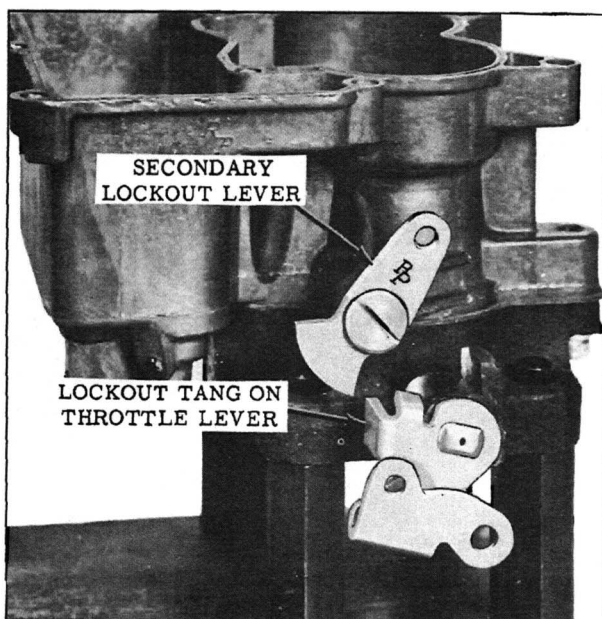

Fig. 24 Secondary Lockout Lever (Front Carburetor)
6. (Front Carburetor Only). Remove lockout lever by removing attaching screw. (See Fig. 24)